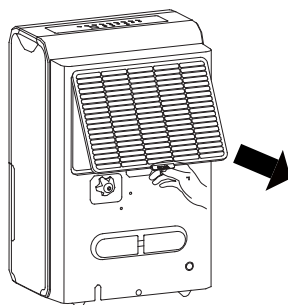

Fig. 10
- To remove the filter, pull filter outwards (See Fig. 10).